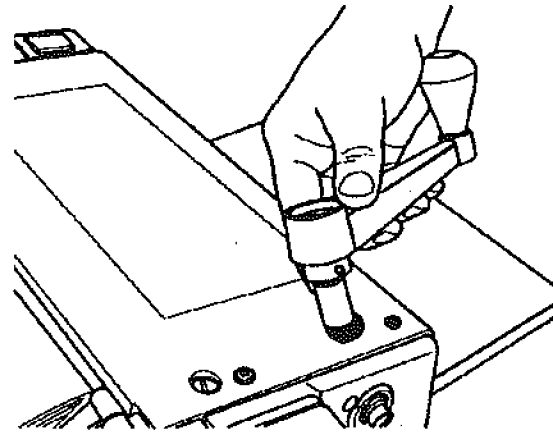

Fig. 42
52. Insert the shaft of the thickness adjustment crank (58) into the hole on the left side of the infeed shield (1), as seen in Fig. 42. Let the shaft bottom out. Turn the crank clockwise. The crank will then drop and engage itself into place.